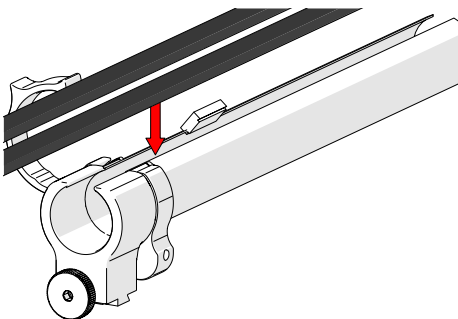

Fig. 80 - Insert cables and hoses
1. Open the cable management. Begin at the tube's dovetail mount and place the cabling in the tube (*Fig. 80*).